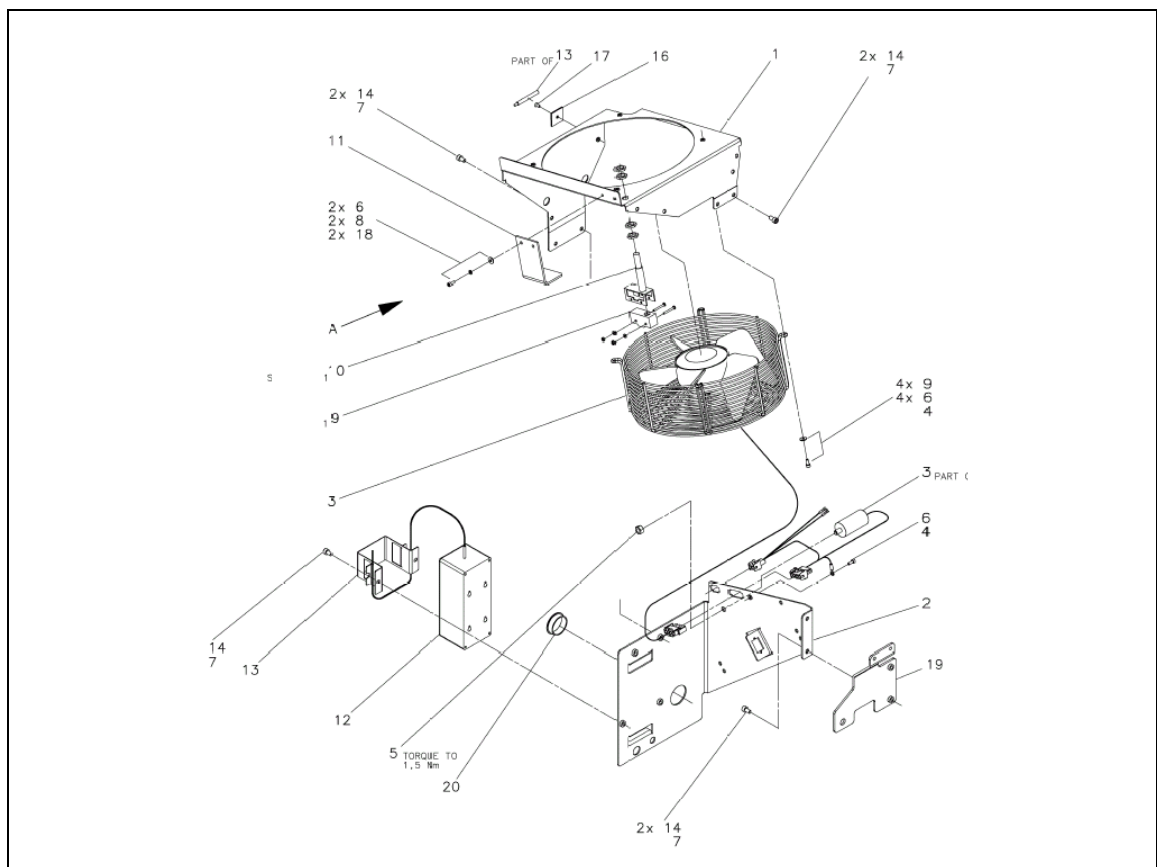

Figure 13. Complete Left Hand Fan Assembly
3. Disconnect the Thermostat from the 120V harness (item 12, Figure 13) and remove from fan bracket assembly.
6. Remove the Lexan switch cover (item 11, Figure 13) from the assembly.
7. Disconnect the limit switch (items 9 and 10, Figure 13) from the old cable harness. Note harness position on switch (Normally Open (NO) and Common Terminals).
8. Remove the limit switch (items 9 and 10, Figure 13) and install on new assembly.
10. Install new Lexan switch cover (2317478) (item 11, Figure 13) on new assembly.
11. Remove fan (item 3, Figure 13), apply Loctite 222 to each screw and install fan on new assembly.
14. After applying Loctite 222 to each fastener, install thermostat (items 12 and 13, Figure 13) on new assembly.
19. Reconnect the thermostat (item 12, Figure 13) to the 120V harness.